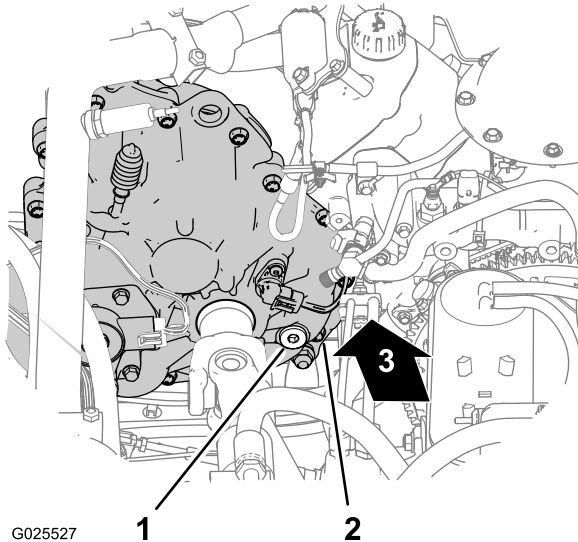
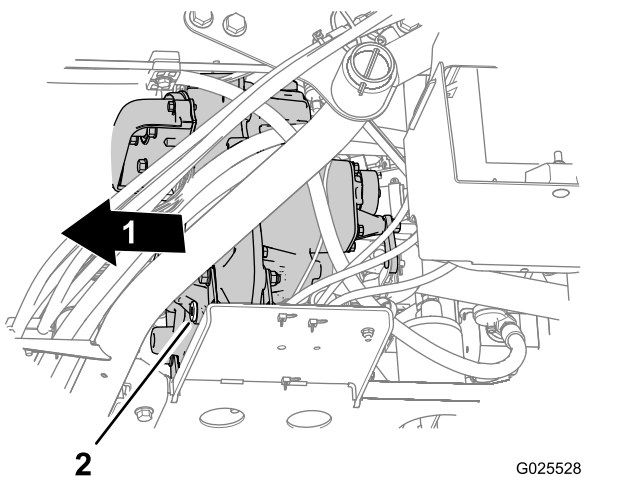

Figure 58
Figure 59
2. Locate the fill plug at the back inboard area of the transmission case and locate the drain plug at the front outboard side of the transmission (Figure 58 and Figure 59).
3. Remove the fill plug from the fill port by rotating the plug counterclockwise and removing it from the transmission (Figure 58).
4. Align a drain pan below the drain plug (Figure 59).
5. Remove the drain plug from the drain port by rotating the plug counterclockwise and removing it from the transmission (Figure 59).
6. Install the drain plug (Figure 59).
7. Add 700 ml (23.7 fl oz) of Dexron VI transmission fluid into the transmission through the fill port (Figure 58).
8. Install the fill plug (Figure 58).